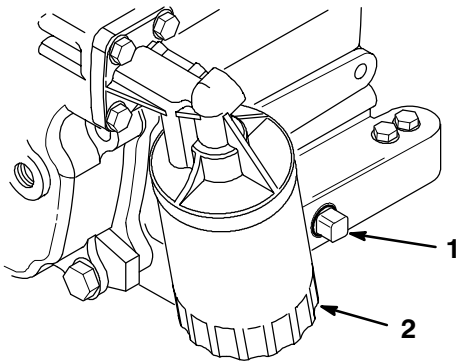

Figure 18
5. Remove the drain plug (Fig. 18) and let the oil flow into a drain pan. When the oil stops, reinstall the drain plug.
2. Remove the existing oil filter (Fig. 18). Apply a light coat of clean oil to the new filter gasket.